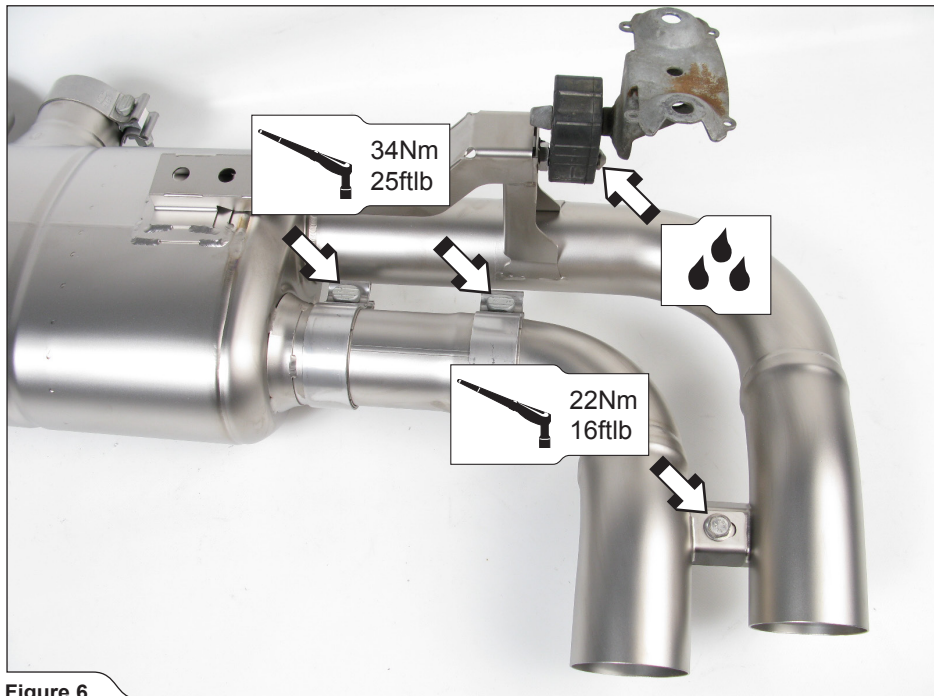

Figure 6
- ! **WARNING:** adjust the outlet pipes, before tightening all the clamps and bolts (Figure 6)!